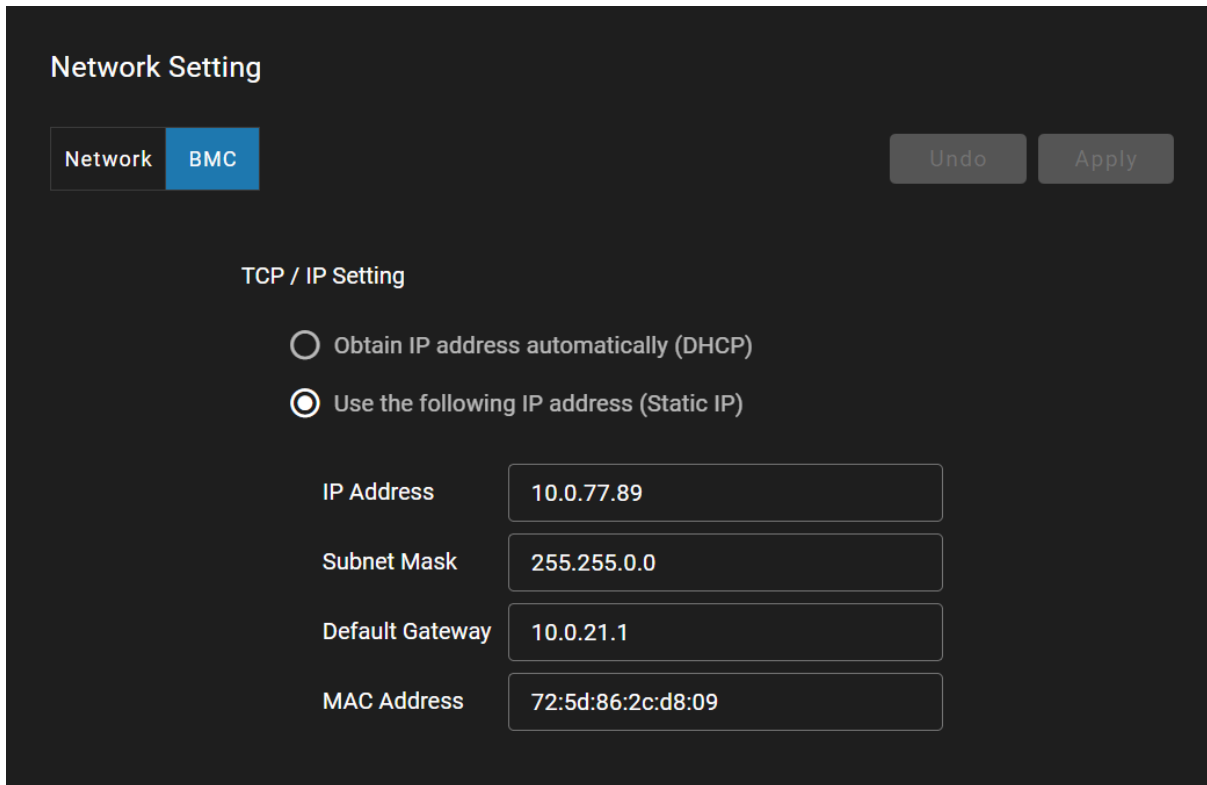

Figure 90. BMC Network Setting Interface
2. Switch to the BMC tab to access the BMC-specific settings (see Figure 90 below).